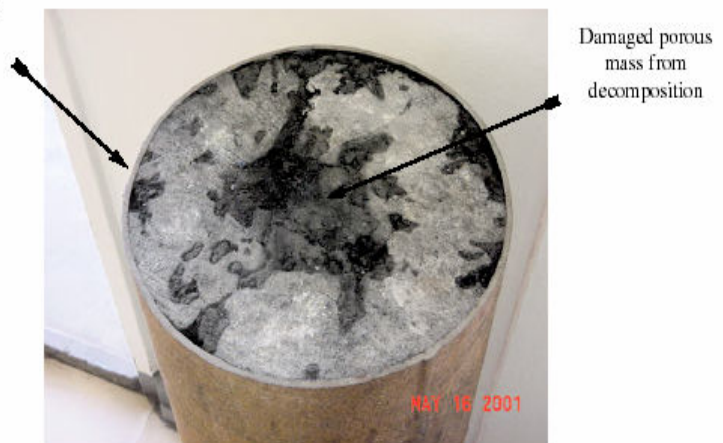

Figure 3 Acetylene cylinder cooled during cylinder decomposition
5. The porous matrix in the cylinder is a good thermal insulator and may shield initial signs of heat build-up. Consequently, there is no reliable way of detecting decomposition in a cylinder unless it is occurring near a cylinder wall. See Figure 3.